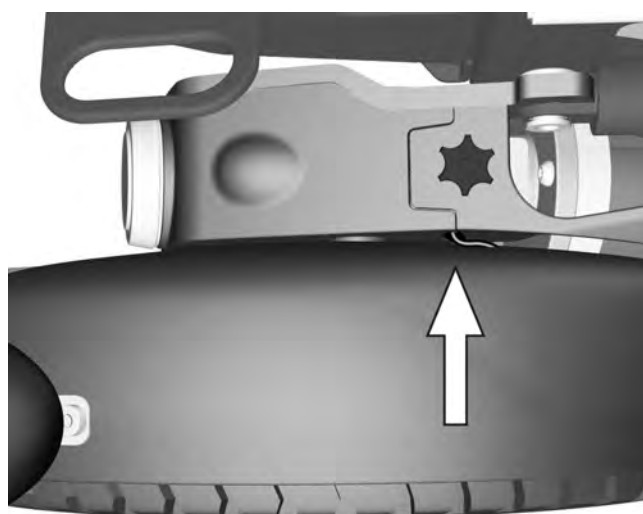

Figure 24. After connecting, push the cables and connectors into the slot, i.e. hide the connectors inside the drive gear cover.
4. On wheelchairs with lights, connect the lights cable to the cable positioned in the slot on top of the driver gear cover. After connecting, push the cables and connectors into the slot, i.e. hide the connectors inside the drive gear cover. See fig. 24.